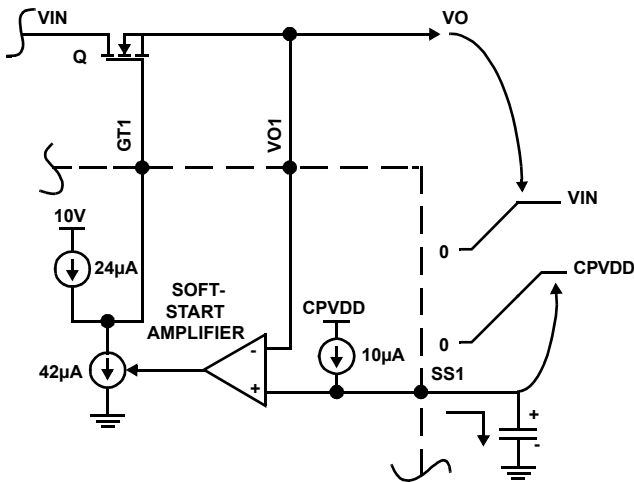

FIGURE 12. SOFT-START OPERATION
The output voltages are monitored through the Vo pins and slew up at a rate determined by the capacitors on the Soft-start (SS) pin, as illustrated in Figure 12. 24µA of gate charge current is available. The soft-start amplifier controls the output voltage by robbing some of the gate charge current thus slowing down the MOSFET enhancement. When the load voltage reaches its set level, as sensed by its respective UV pin through an external resistor divider, the Power Good (PG) output goes active.
I_{INRUSH} is the sum of the dc steady-state load current and the load capacitance charging current. If the dc steady-state load remains disabled until after the soft-start period expires (PGx could be used as a load enable signal, for example), then only the capacitor charging current should be used as I_{INRUSH} . The C_{SS} value should always be more than (1/2.4) of that of C_{ISS} of the MOSFET to ensure proper soft-start operation. This is because the C_{ISS} is charged from 24 μ A current source whereas the C_{SS} gets charged from a 10 μ A current source (please refer to Figure 12). In order to make sure both V_{SS} and V_O track during the soft-start, this condition is necessary.